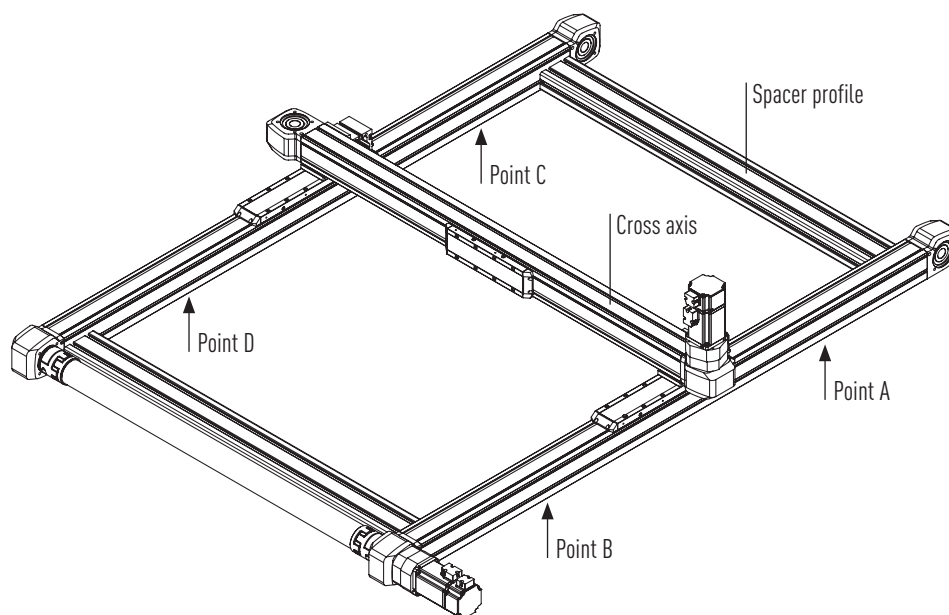

Fig. 6.3 Points A, B, C and D for hoisting and transporting, here on an two-axis system HS2
- ▶ To transport the double axis/axis system, hoist it by the designated support points A, B, C and D (see Fig. 6.3). Use suitable hoisting gear for this purpose, such as an underslung or gantry crane, crane slings and – depending on the dimensions – a lifting beam. The points A and B as well as C and D should be a quarter of the axis' overall length from each of its ends.